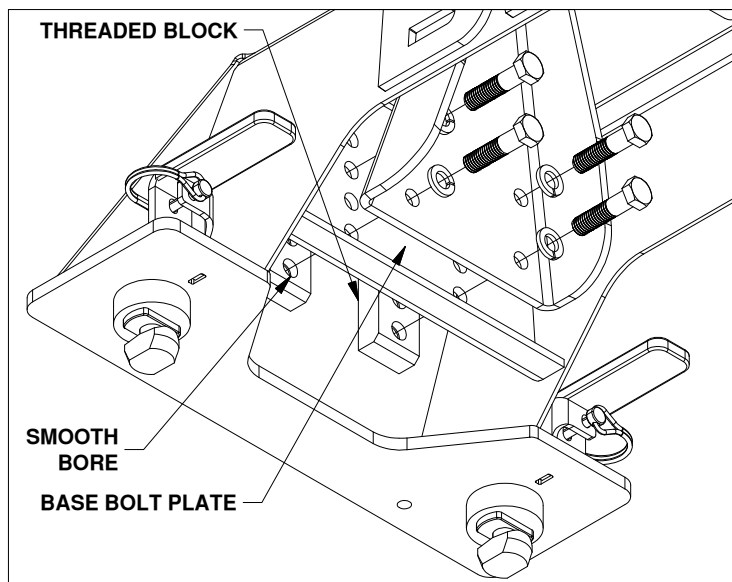

FIGURE A3: Passenger pivot arm mounting location.
3. **Secure arms.** Locate both pivot arms, the four threaded blocks, eight 1/2" cap screws, and eight 1/2" lock washers. Place the lock washers over the cap screws. Align the flat side of the pivot arm flat against the bolt plate and install four 1/2" cap screws through the holes on the arm, holding the arm in place, as shown in Figure A3. Locate the threaded blocks. Note that the sides of the block have threaded holes on one side and smooth bored holes on the other side. When installing the threaded blocks it is critical that the side with the smooth holes is flat against the bolt plate when installed. It is also critical that each of the five holes in the threaded block match up with the five vertical holes in the bolt plate. Pass the threaded block under the base, align the block with each set of screws, and start each screw, as shown in Figure A3. After all the screws are started through the arms, torque each bolt to 110 ft-lbs.